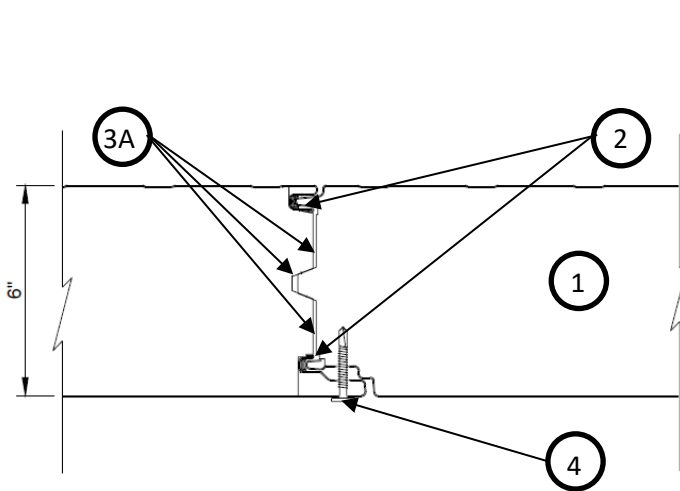

Figure 3: SAlFire Intumescent Interlocking panel Joint
Install nominal 6 in. thick x 42 in. wide Kingspan K-ROC Panels w/min. 24/26 GA (ext./int) steel skins, horizontally using the mounting attachments (Item 7). The Max. span between butt joints is 12 ft. Refer to **Figures 1 and 4** for butt joints, and **Figures 3 and 5** for interlocking joints.
- A. Option 1: Refer to **Figure 3**. Apply three 20 mm beads of Kingspan's Safire Intumescent Mastic in the interlocking joints of the mineral wool core.